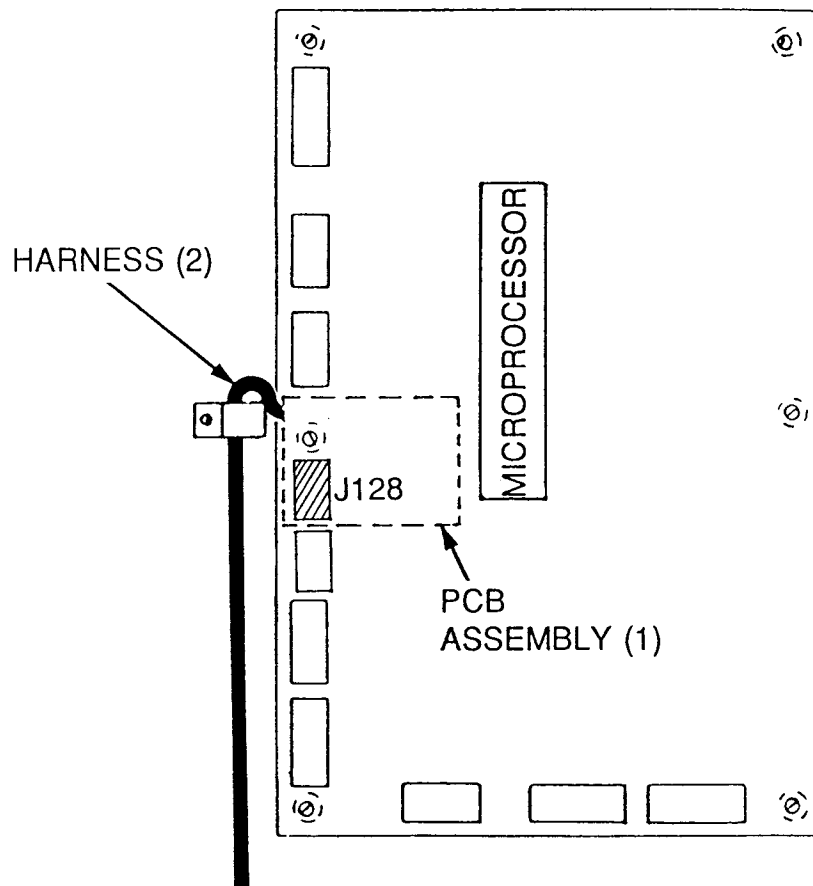

Figure 1
4. Attach the harness (2) to J200 of the PCB assembly (1).
5. Connect the PCB assembly (1) to J128 on the controller as shown in figure 1.